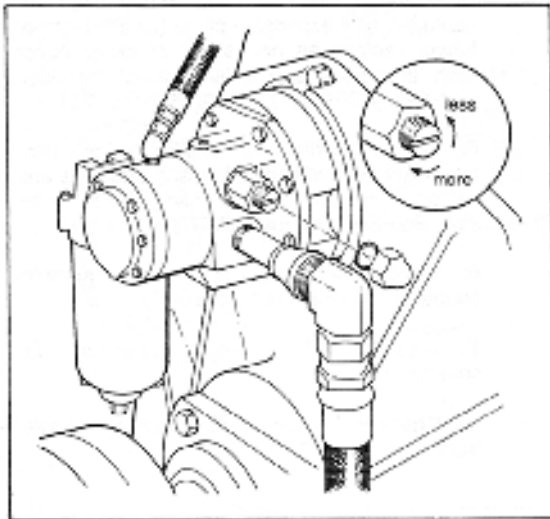

Fig. 20. Adjustment of Oil Pressure
5. Worn or incorrectly adjusted pump assembly	Refer to oil pump section (page 16) or fig. 20 p.17